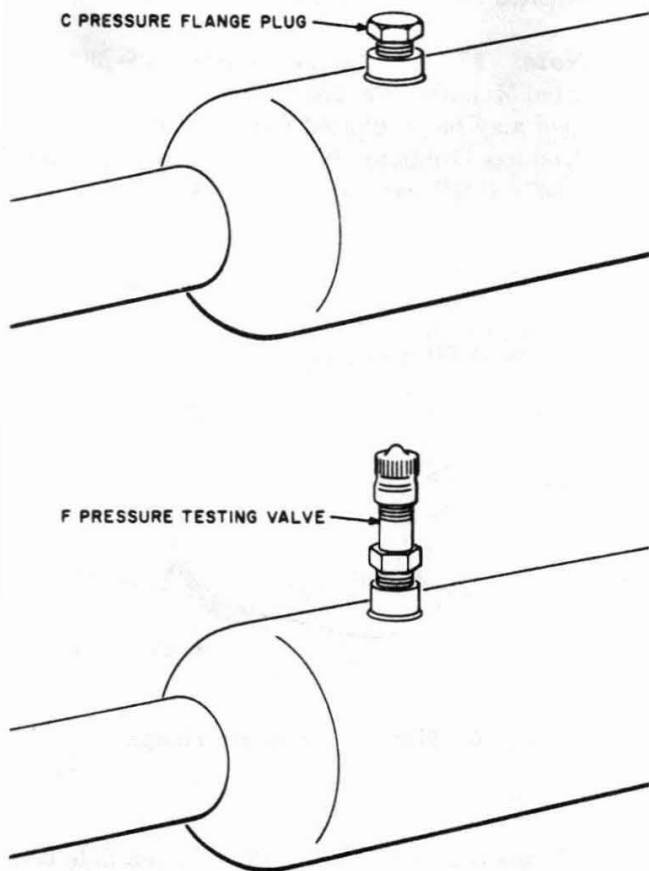

Fig. 7—Placing Flange Plug or Pressure Testing Valve in C Pressure Flange
- (1) Scuff the sheath or sleeve with a carding brush (paragraph 1.03) where the flange is to be placed and coat with stearine.
- (2) When the flange is to be soldered to a relatively small diameter cable or sleeve, slightly flatten the sheath or sleeve to provide a closer fit, which will facilitate soldering.
- (3) Form a ring from a piece of C stearine core solder 2-1/2 inches long.
- (4) Place the flange on top of the sleeve and place the solder ring around the base of the flange.
(6) If sealing an existing hole or if the hole was drilled prior to installing the flange, plug the hole with paper or muslin to prevent solder from flowing into the hole during the soldering operation.
(7) Apply a hot soldering copper to the top of the flange or play the flame from a torch on the flange until the solder flows and adheres evenly to the flange and sheath.
(8) Drill a hole in the sheath and prepare the sheath as covered in ♦Section 637-235-100, Part 9.♦
(9) Be sure to remove the paper or muslin from the drill hole after the solder work is completed, and make sure that the opening is clear for the free flow of air.
- (10) Before placing either the C pressure flange plug or F pressure testing valve in the flange (Fig. 7), coat the threads with teflon pipe sealing tape to ensure an airtight seal.